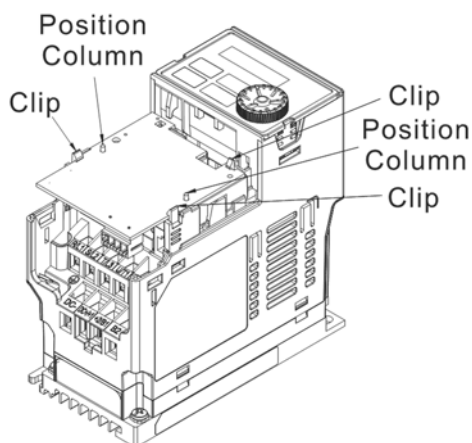

Figure 8-18
4. Assembling the option card: As shown in the Figure 8-18, have the terminal block of the option facing up, aim the two holes of the option card to the position column and press downward so that the three clips are engage the option card.